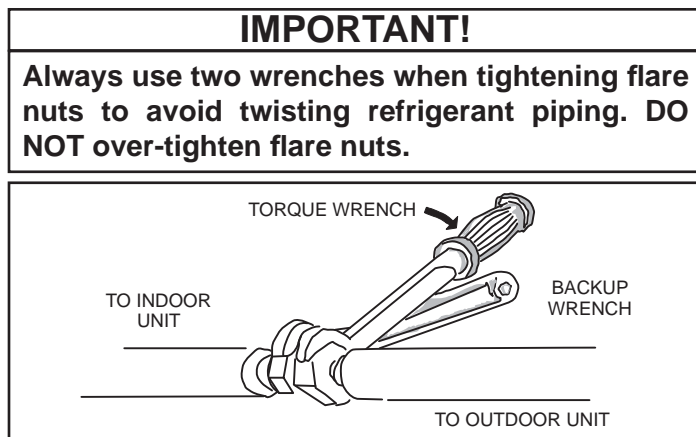

Figure 5. Tighten Flare Nut
- Once snug, continue another half-turn on each nut which should create a leak-free joint. A torque wrench may be used to tighten flare nuts using table 2 recommendations. See figure 5. **Do not over-tighten a flared joint. Flared connections should always be accessible and must be insulated to prevent condensation.**